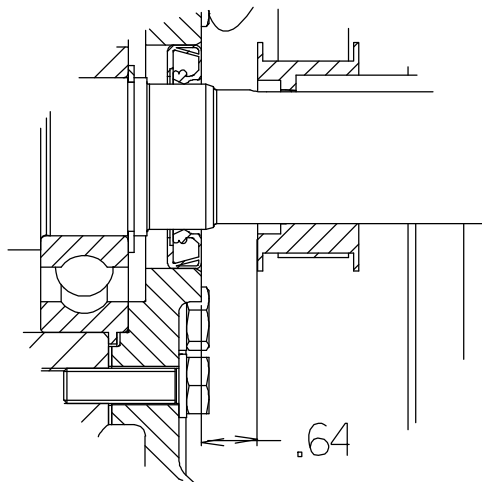

Figure 6. Drive Sprocket Positioning
See Figure 3 and install the key (34) in the shaft keyway, making sure to leave room in the keyway for the drive key (35). Install the sprocket (43, Figure 2) and bushing (44, Figure 2) on the shaft to the dimension shown in Figure 6.